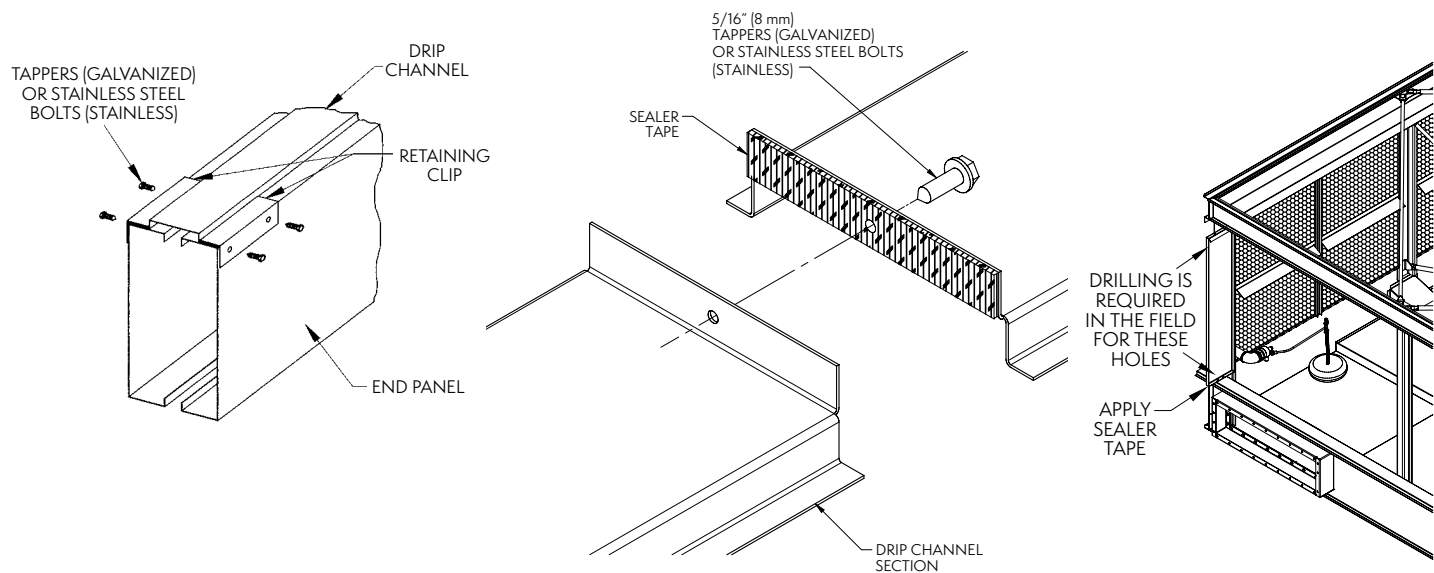

Figure 2b – Drip Channel and Vertical Splash Guard Installation
9. If there are multiple drip channels, apply sealer tape as shown in **Figure 2b**, fasten them together end-to-end by driving a self-tapping 5/16" (8mm) screw through the section end with the larger hole into the mating end with the smaller hole. Stainless steel units will use 5/16" (8mm) stainless steel nuts and bolts.
10. Place the vertical splash guard in the bend of the vertical supports. On galvanized units, attach the vertical splash guard using 5/16" (8mm) self-tapping screws. On stainless steel units, attach the vertical splash guards using 5/16" (8mm) stainless steel nuts and bolts. (See **Figure 2b**)
11. Attach the bottom of the vertical splash guard to the drip channel using 5/16" (8mm) hardware and sealer tape as shown in **Figure 2b**.
12. This step only applies to units with a 5-1/8" (130mm) spacing between cells. Place the filler cap channel in the upper flanges of the bottom section as shown in **Figure 2b**. Attach to vertical splash guards using 5/16" (8mm) tappers (for galvanized units) or stainless steel nuts and bolts (for stainless steel units)